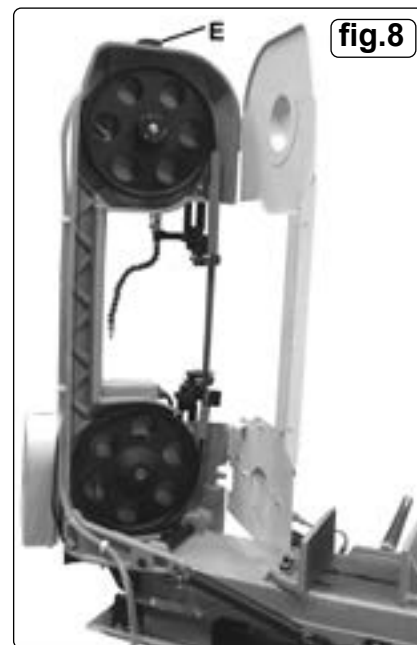

fig.8
- 5.8.5. Undo and remove the two screws (fig.7A) that hold the main blade cover closed and fully open the cover (fig.8).